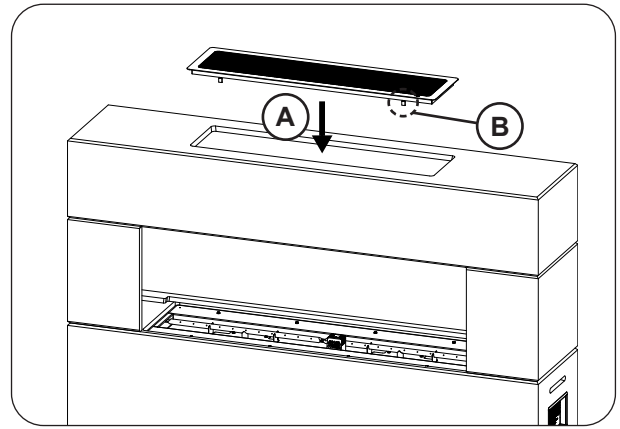

Fig. 32-1 Install vent screen
1. Insert the vent screen into the opening of the fireplace top assembly (see Fig. 32-1,A).
2. From below/within the fireplace top, carefully bend the tabs upward to secure the vent screen in place (see Fig. 32-1,B).